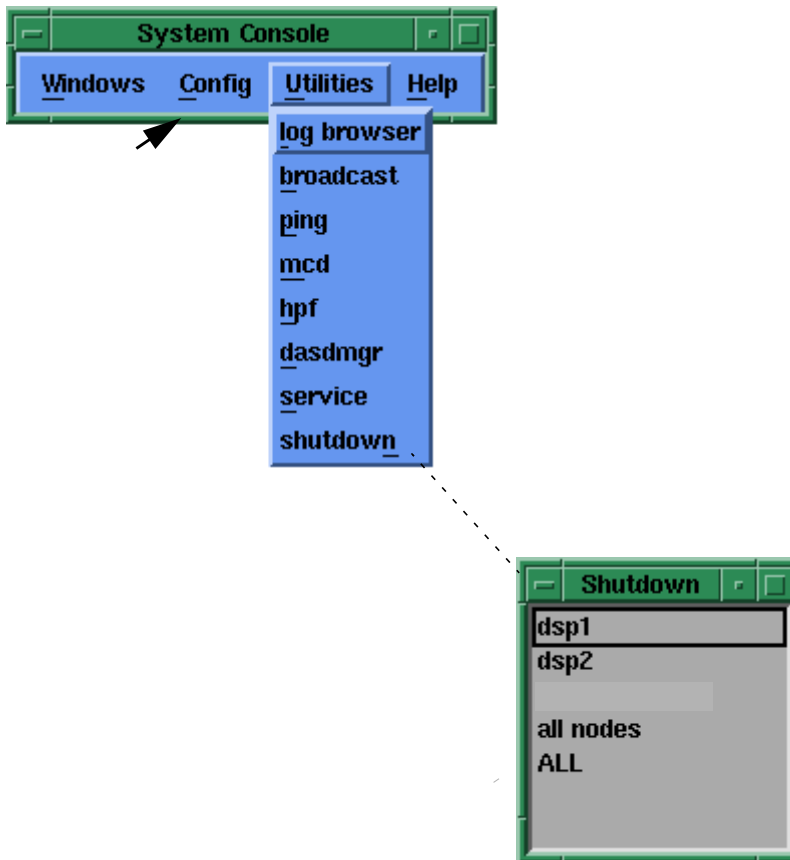

FIGURE 2-12 Shutdown Pulldown Menu
2. Move the mouse pointer to Utilities and press the left mouse button. A pulldown menu appears, as shown in FIGURE 2-12.
4. A popup window titled `Shutdown` appears, as shown in FIGURE 2-12. Move the mouse pointer to `all nodes` and click on it with the left mouse button.